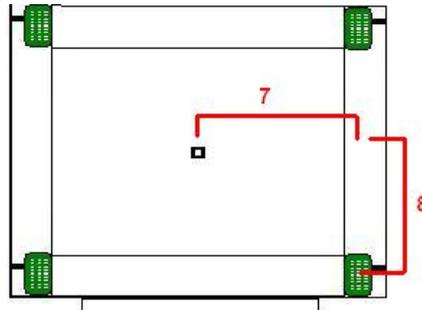

Figure 2-5: Marker_Phys_coords 7,8
Measure the distance from the calibration dot, to the reference line in the middle of the IR markers(7). Also, record half the distance between the IR markers(8) This is illustrated in Figure 2-5.